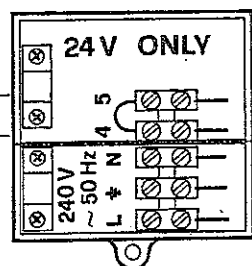

Fig. 18
Electrical installation must be carried out by a competent electrician. The appliance is to be connected to a 240 V ~ 50 Hz supply (see fig. 18). The supply fuse rating is 3A. The terminals are accessible after removing the white base plate and single screw securing the terminal cover (see fig. 18).
- 7.2 Room Thermostat (fig. 18) (or remote time clock connection)